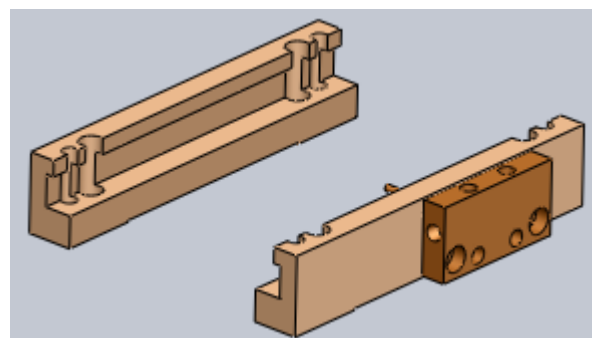

图 2 Fig. 2
2. 检查固定左、右导轨，喷油嘴 (图 2)
Check the fixed left and right rails, injectors (Fig. 2)